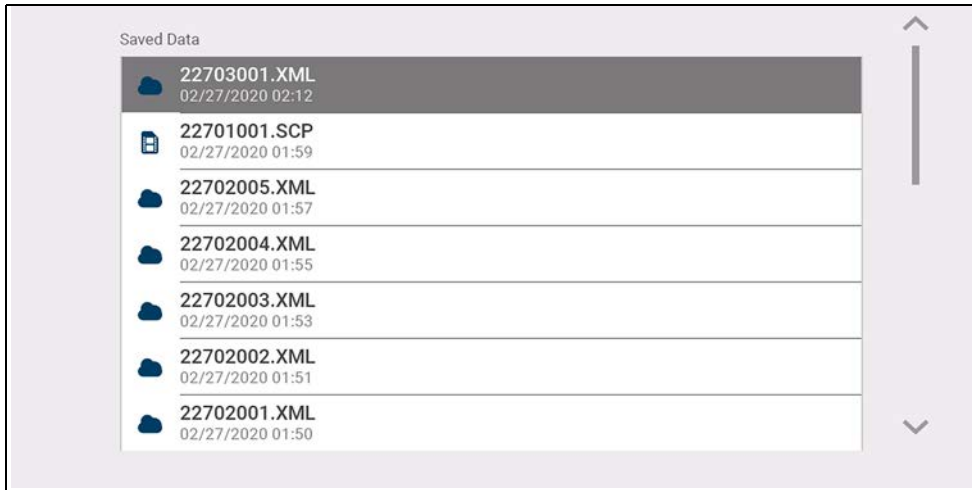

Figure 9-2
- **All Saved Data** - Lists all saved files (*Figure 9-2*)
Code scans and single system code results are saved as (.XML) files, and can be selected from the All Saved Data list or Scanner list (*Figure 9-2*).